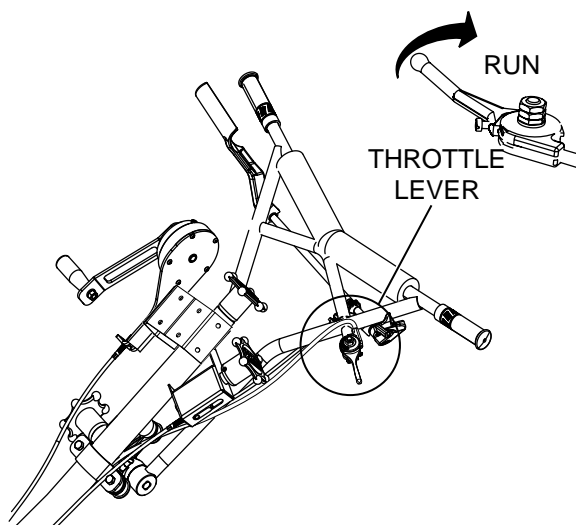

Figure 42. Throttle Lever (Run)
1. To begin troweling, place the throttle lever (Figure 42) in the "**RUN**" position.